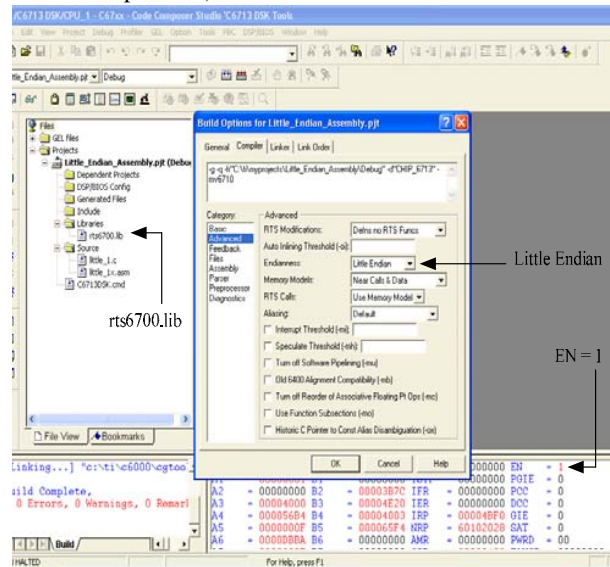

Fig. 2 A screen-shot of the CCS for little endian mode
2. After setting switch No.1 in the OFF position, **EN** in the Code Composer Studio must indicate 1. This is read only register and indicates the mode of the DSK board. When EN=1, the DSK board operates in the little endian mode and when EN=0, the DSK board operates in the big endian mode. The value of EN can be displayed in the CCS by **Clicking View → Clicking Register → Clicking Core Registers** as shown in Fig.2.
3. The endianness of the TMS320C6713 DSK board must be set to Little Endian as shown in Fig.2. This can be done by **Clicking Project → Click Build Options → Highlight Advanced** and make sure the **Endianness** is set to **Little Endian** and press **OK**.